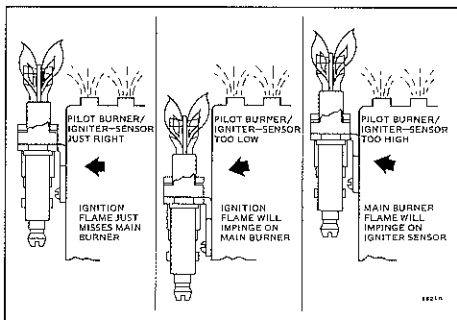

Fig. 2—Location of pilot burner/igniter-sensor.
3. Mount pilot burner/igniter-sensor so the pilot flame remains properly positioned with respect to the main burner flame. Refer to Fig. 2.